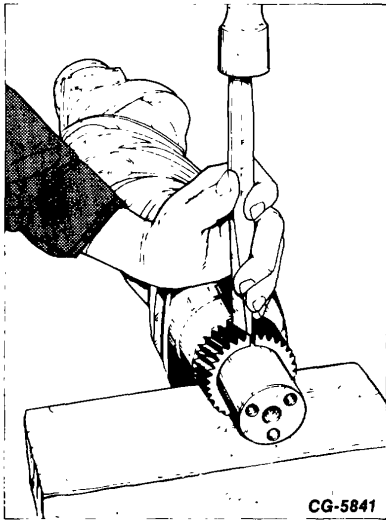

Figure 16. - Removing Crankshaft Gear
3. Using a hammer and chisel split the drive spline and gear (individually) as shown in Fig. 16.